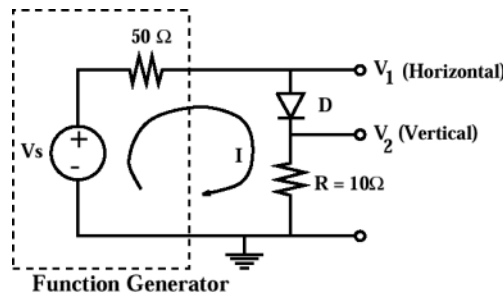

Figure 6: Diode circuit.
In order to observe the I-V characteristic of a diode, we need to be able to plot the current through the diode as a function of the voltage across the diode. The oscilloscope only measures voltages. However, it can plot one voltage as a function of another voltage. Consider the circuit shown in Figure 6. In this circuit,  $V_2 = V_R = IR$  and is therefore linearly proportional to I. When the LED conducts current in the **forward** direction, the voltage drop across it will be in the vicinity of 1.4-1.6 V. If the voltage across the diode is significantly greater than the voltage across the 10 Ω resistor, then  $V_1 \approx V_D$ . In order to observe the I-V characteristic, we will observe  $V_2$  as a function of  $V_1$ , with the understanding that the shape of the I-V characteristic is identical to the  $V_2V_1$  characteristic because  $V_2$  is proportional to I and  $V_1 \approx V_D$ .
1. Construct the circuit in Figure 6 on the bench-top breadboard. Set the function generator to produce a sinusoidal, 1 kHz, 4V (measured) peak-to-peak voltage  $V_1$ . Note that  $V_1$  is the voltage drop from the anode of the diode to ground.